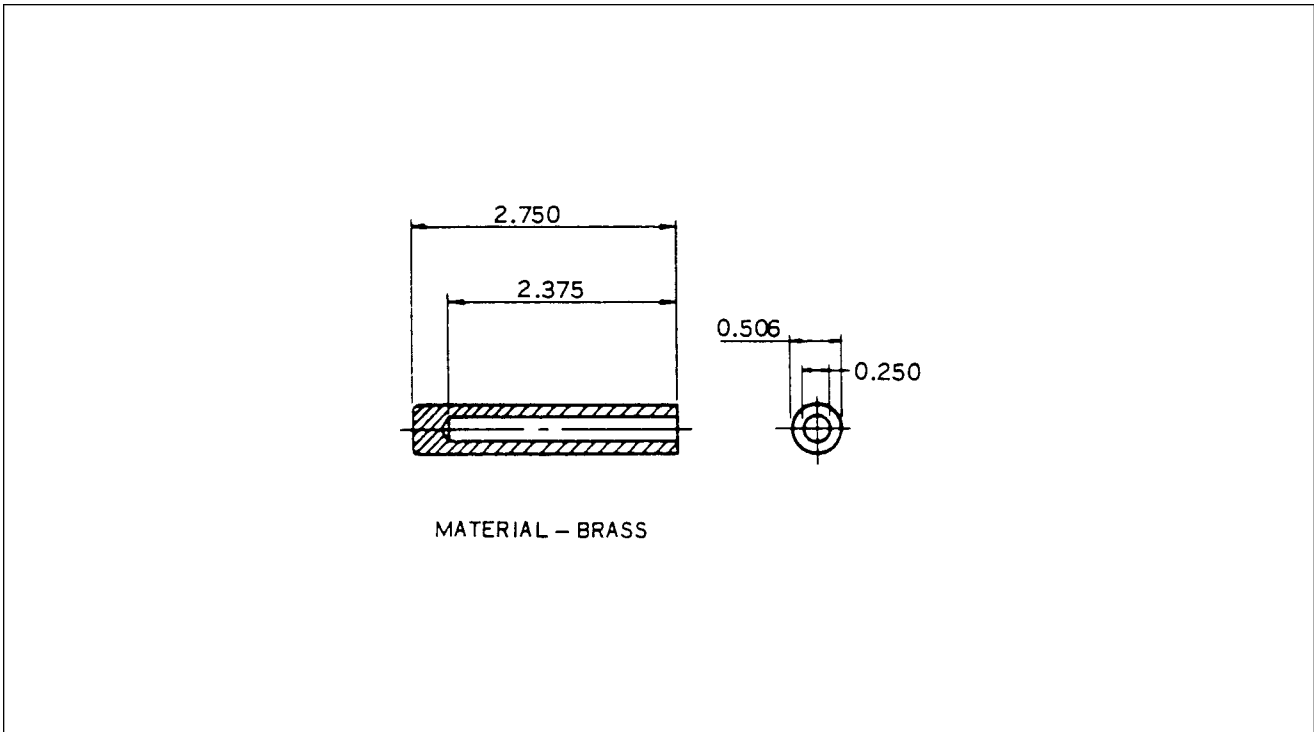

Figure 74-27. Ferrule Seating Tool
- h. Provide a back up support for cover and seat ferrule using 11-7074 Ferrule Seating Tool (refer to figure 74-27) and a mallet. Ferrule must be driven straight into cover and fully seated.